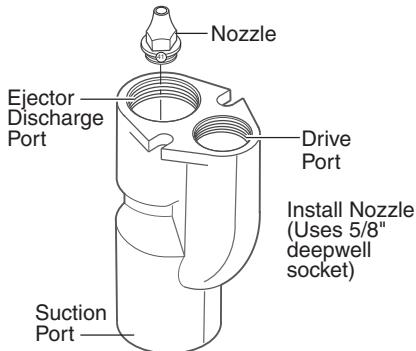

Figure 3
4. If you are changing nozzles, use a 5/8" deep-well socket to remove the nozzle and install the new nozzle in the top (double port) of the ejector body (See Figure 3). The nozzle screws into the third set of threads visible inside the ejector discharge port (the larger port) in the ejector body. Otherwise, go to Step 5.